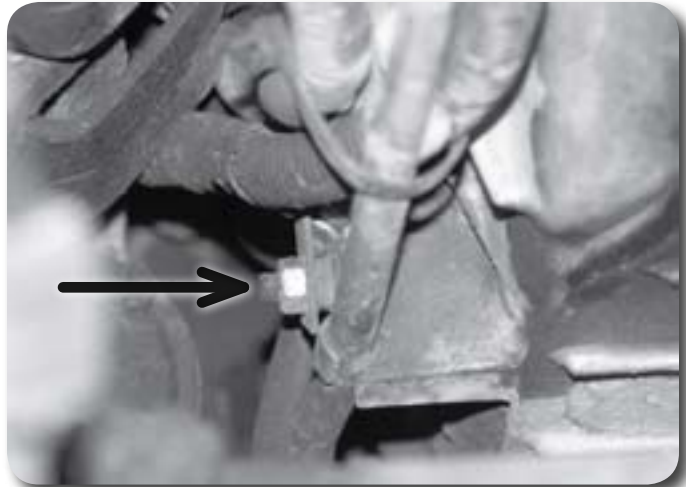

Figure 19
22. Remove the bolt/clip mounting the oil cooler lines to the passenger's side of the engine oil pan Figure 19. Remove the lines from the pan.